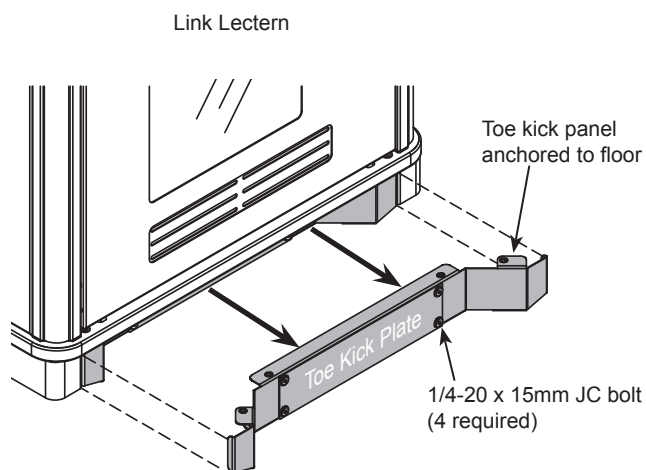

Figure 9.2
5. Move lectern into position over the anchored toe kick. **Figure 9.2.**
6. Align the (4) base panel mounting holes (instructor-side) with the toe kick panel mounting holes.
7. Attach toe kick plate with (4) 1/4-20 x 15mm JC bolts.